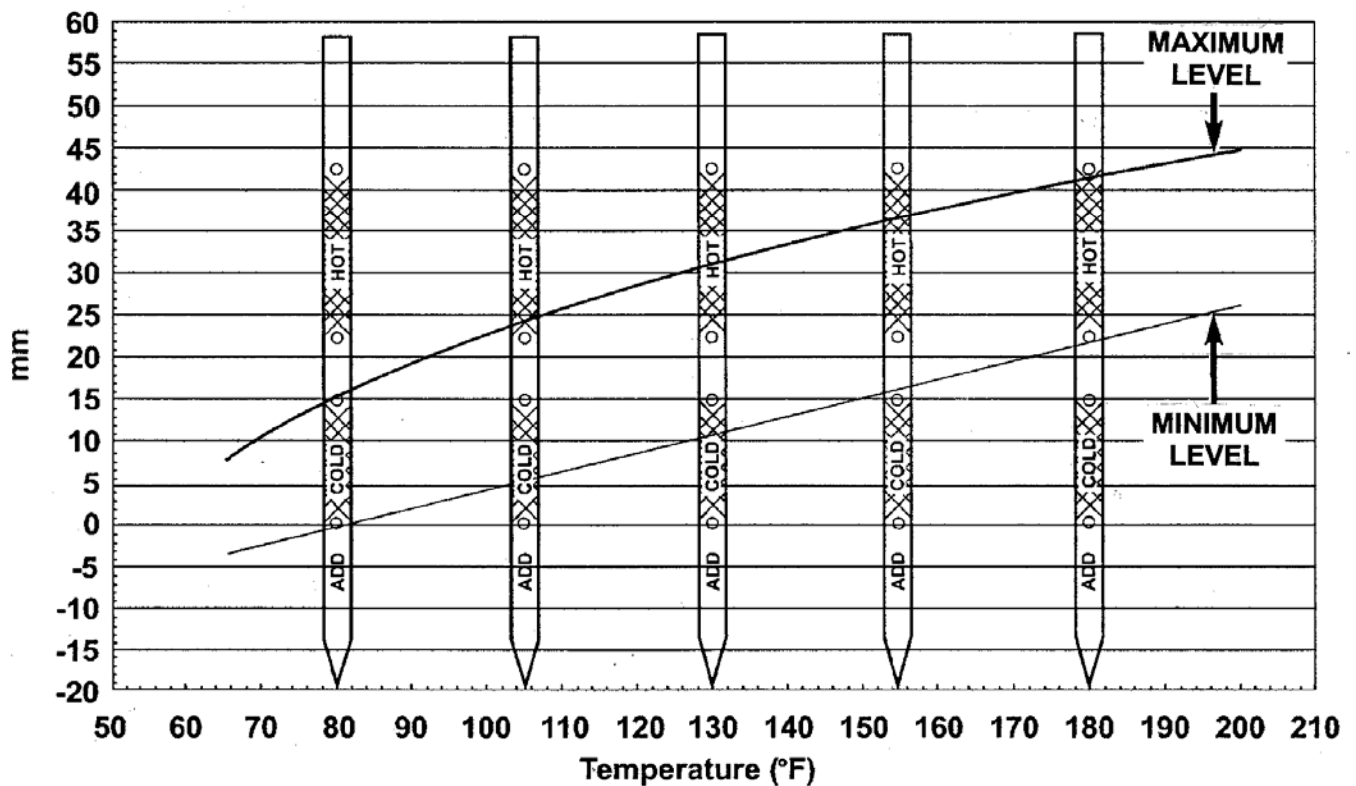

Figure 4
38. Place the transaxle selector lever in the “P” Park position. With the vehicle on level ground, start the engine and allow the engine to run at idle speed for at least one minute. At normal operating temperature 180°F (82°C), the fluid level is correct if it is in the “HOT” region on the transaxle dipstick. The fluid level should be within the “COLD” region of the dipstick at 80°F (27°C) fluid temperature. Add additional ATF+4 transmission fluid as required and recheck level (Figure 4).